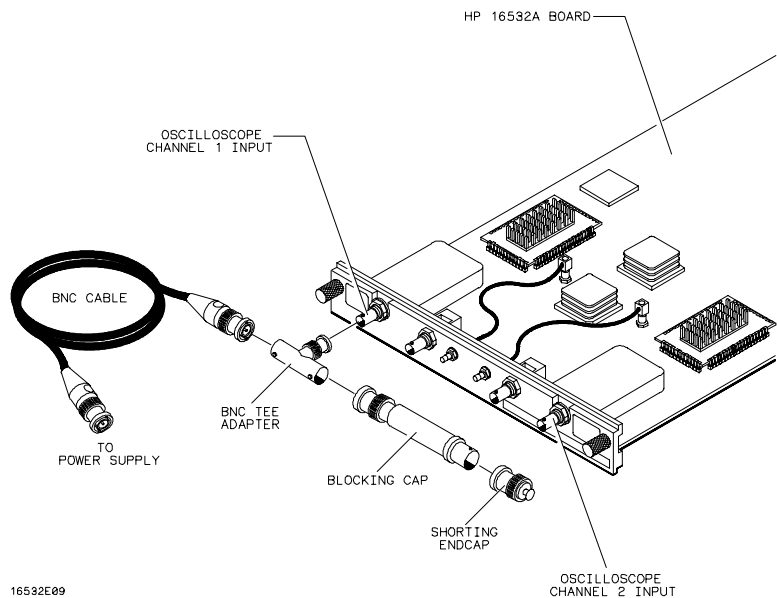

Figure 3-1. Voltage Measurement Accuracy Test
- 1. Using a BNC adapter, connect one end of the cable to the power supply. Connect the BNC tee, the blocking capacitor, and the shorting endcap to the other end of the cable. Refer to figure 3-1.
5. Set the power supply to the first supply value listed in the table. Connect the power supply to the channel input as shown in figure 3-1.